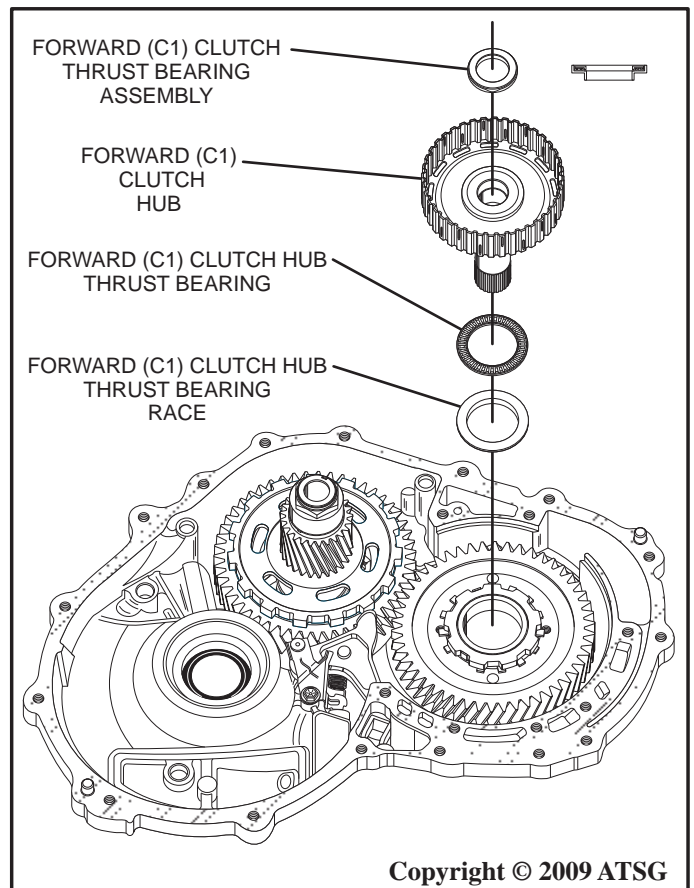

Figure 31
40. Remove the forward (C1) clutch thrust bearing assembly as shown in Figure 31.
41. Remove the forward (C1) clutch hub by lifting straight up as shown in Figure 31.
42. Remove the forward (C1) clutch hub thrust bearing and race as shown in Figure 31.